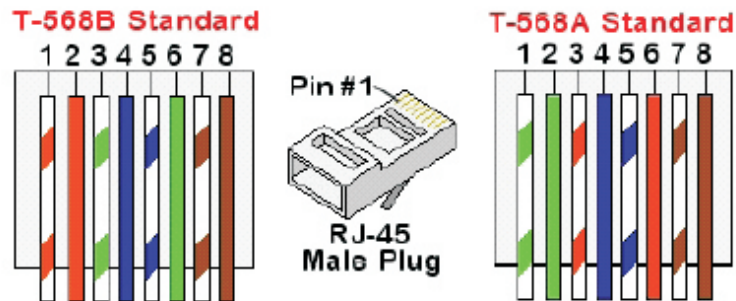

Fig 6.18 Standard cable wiring
- Insert the eight wires into an RJ45 connector, as described in Fig 6.18.